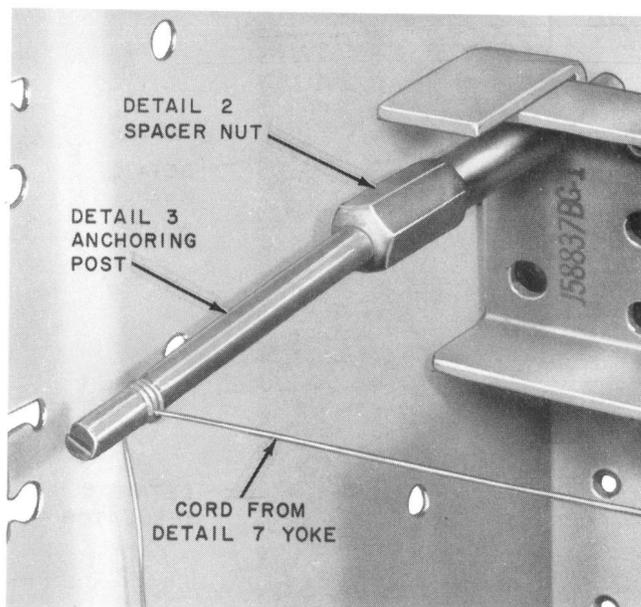
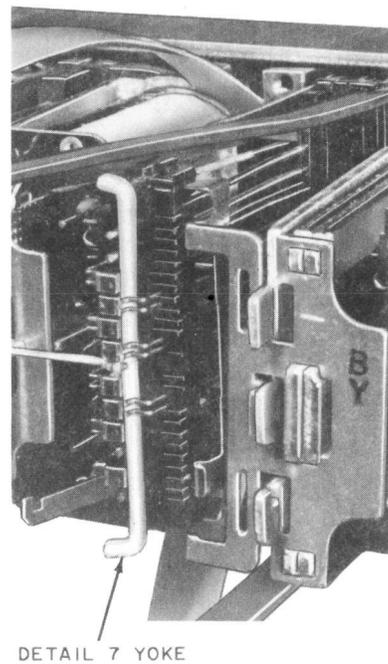

Fig. 15—Detail 3 Anchoring Post Inserted in Left Detail 2 Spacer Nut
Fig. 21—Detail 7 Yoke in Place Between Contacts
(h) Insert the detail 3 anchoring post into the left detail 2 spacer nut and hand tighten. (See Fig. 15.)
- 3.54** Insert detail 7 yoke between the right movable contacts and fixed single contacts as shown in Fig. 21. Hold detail 13 comb in place, and carefully remove first detail 16 lifter; then remove detail 13 comb. All contacts should mate properly.
- 3.55** Tie detail 7 yoke assembly (Fig. 21) to detail 3 (Fig. 15) anchoring post using lock stitch. Pull only tight enough to release the pressure of the spring assembly against the core plate of the relay and tie. Clamp spring can now be released.
3.77 Insert detail 7 yoke on right side of fixed contacts. (See Fig. 21.) Holding detail 13 comb in place, carefully remove detail 16 lifter and then remove detail 13 comb. All contacts should mate properly.
- 3.99** Insert detail 7 yoke (see Fig. 21) on the right side of the fixed contacts, and carefully remove detail 35 lifter. All contacts shall mate properly.